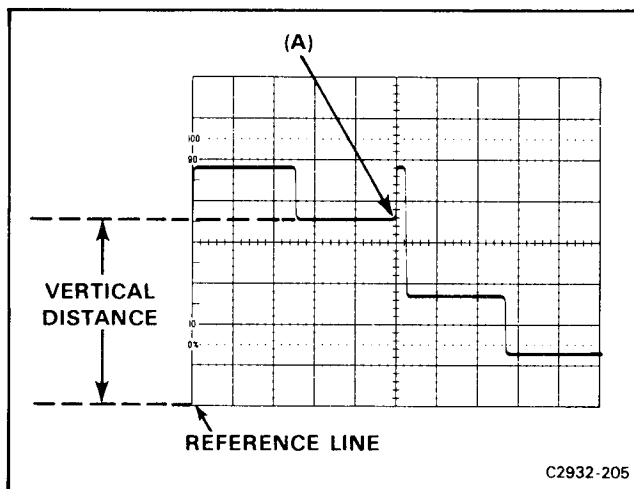

Figure 2-9. Measuring instantaneous dc voltage with respect to a reference voltage.
4. Measure the distance in divisions between the reference line and the point on the waveform at which the dc level is to be measured. For example, in Figure 2-9 the measurement is made between the reference line and point A.